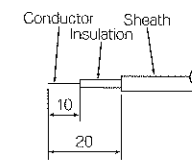
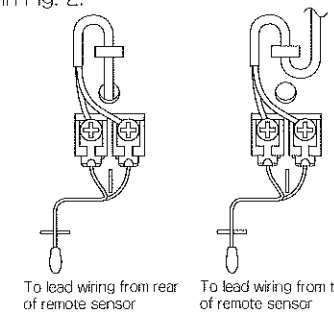

Fig.1
Fig.2
- Connect the 2-core cable to the terminal block in the lower case. Peel the sheath of the 2-core cable as shown in Fig. 1, and correctly wire it as shown in Fig. 2.